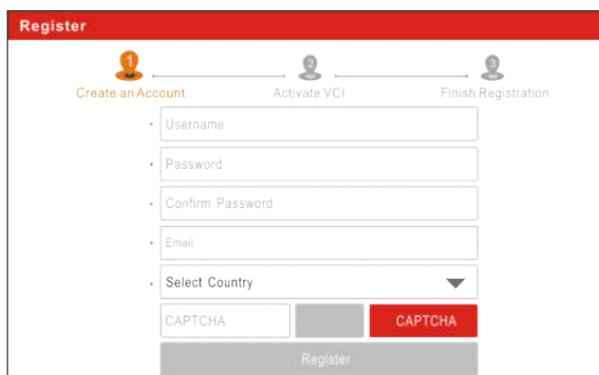

Fig. 4-3
- a) Create App Account: In Fig. 4-3, fill in the information in each field (Items with * must be filled). After inputting, tap “Register”, a screen similar to the following will appear: